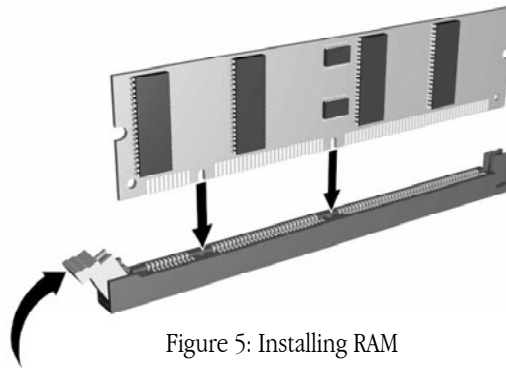

Figure 5: Installing RAM
2. Lower the DIMM squarely into the slot so that the notches in the DIMM line up with the notches in the slot. Slide the contacts straight into the slot and make sure the contacts are firmly seated. (see **Figure 5: Installing RAM** on page 11). When properly seated, the contacts on the bottom should not be visible.